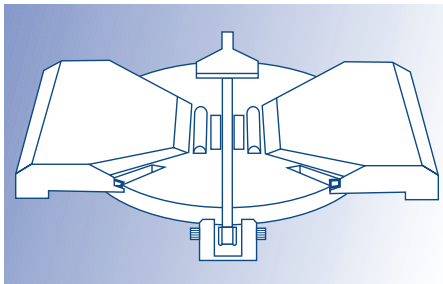

Figure 2. Removable, vented hatch cover
2. To avoid the risk of collapsing the bulkheads, at least one hatch on the compartment being unloaded should be opened. Filters should be attached to the open hatches and rain should be prevented from entering the open hatchway. Sekisui recommends the use of removable hatch covers such as the one shown in Figure 2. This cover will permit adequate airflow but prevents water, or other contamination, from entering the car. Contact your Sekisui service representative for filter or cap information if necessary.